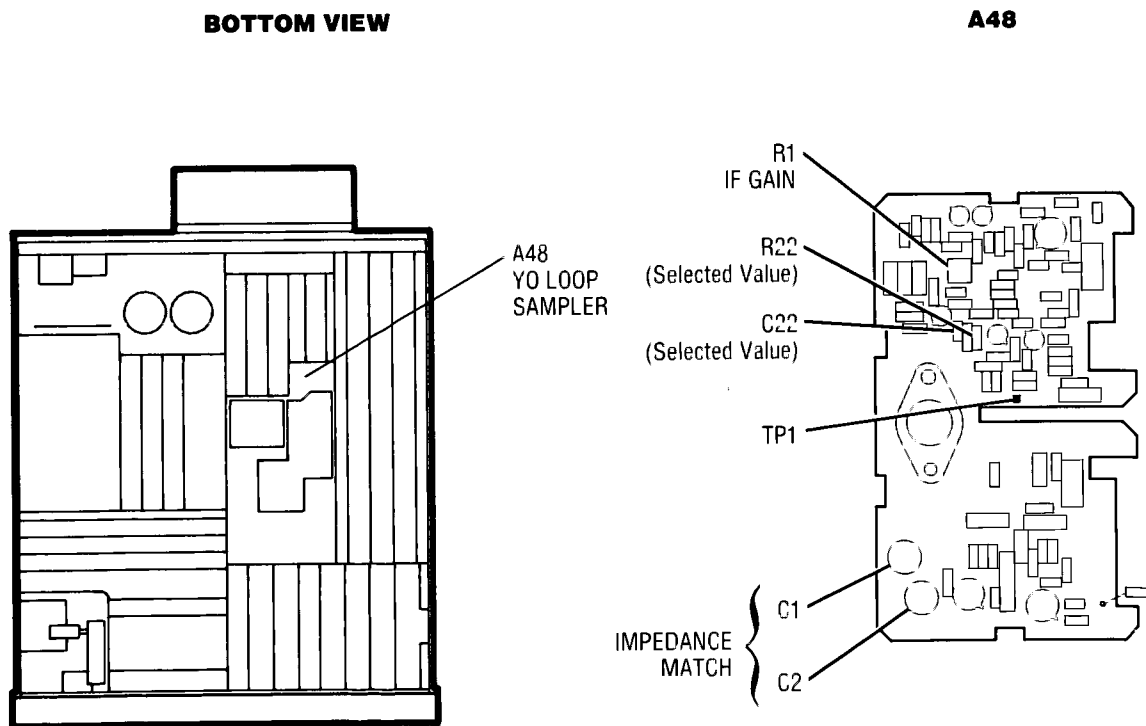
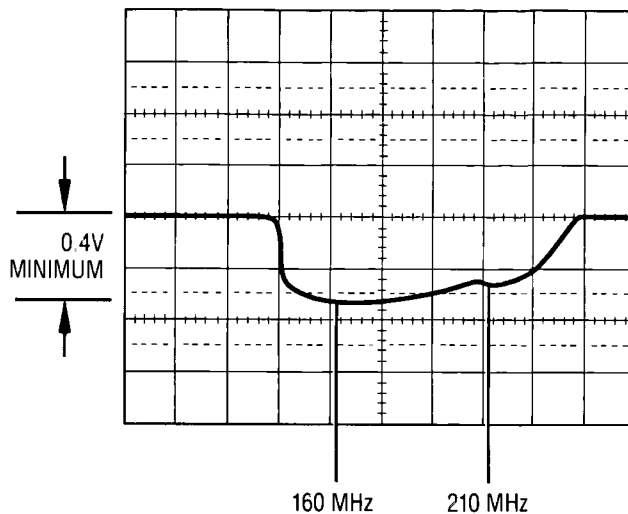

Figure 5-19. Location of YO Loop Adjustments
Figure 5-20. Typical Swept Frequency Response at A48TP1
7. Adjust A48C1 and A48C2 (Figure 5-19) for a trace on the oscilloscope similar to Figure 5-20. Adjust for the flattest response from 160 MHz to 210 MHz. The amplitude of the response should be at least 0.4 Volts peak-to-peak.